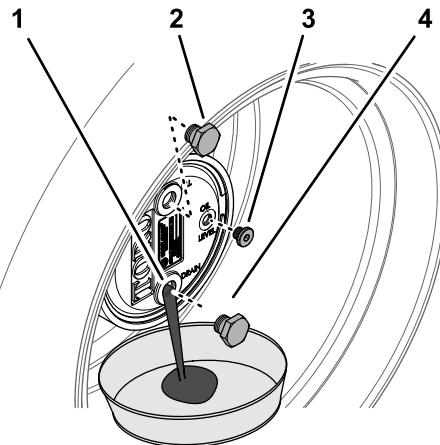

Figure 68
3. Place a drain pan under the planetary hub, remove the drain plug at the 6 o'clock position, and allow the oil to fully drain (Figure 68).
5. Install the drain plug into the drain hole of the planetary housing (Figure 68).
2. Remove the fill plug at the 12 o'clock position and the check plug at the 3 o'clock position (Figure 68).